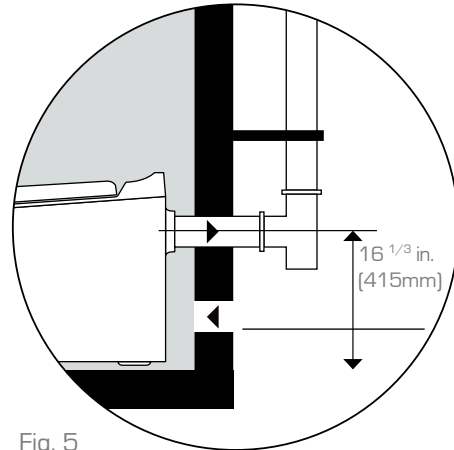

Fig. 5
5. Install the supplied short air pipe through the wall [fig. 5].